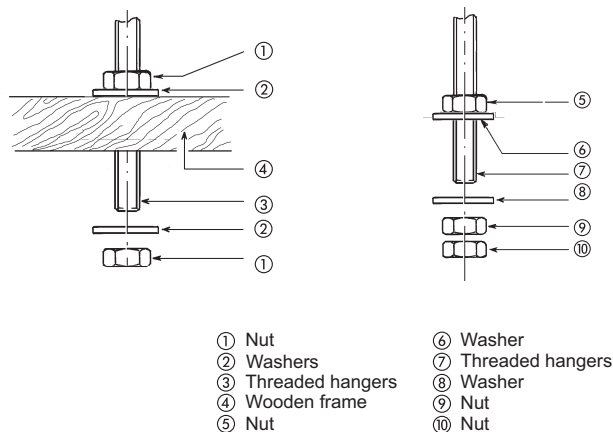
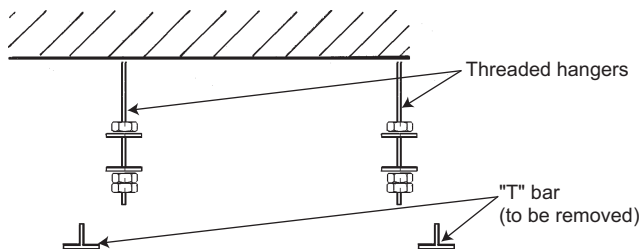
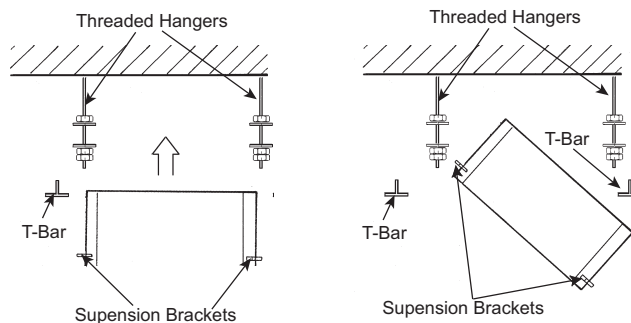

Fig. 7 - Attaching Hangers to Ceiling
Fig. 8 - Threaded Hangers and "T"Bar
Fig. 9 - Positioning Unit in Ceiling
- b. Depending on the type of ceiling, fix the threaded hangers as shown in Fig. 7 and Fig. 8.
- c. Insert the washers as shown in Fig. 7 and Fig. 8.
- d. Remove the "T"bar in ceiling to facilitate installation. See Fig. 8. If the "T" bar cannot be removed from the ceiling, the unit may have to be tilted as shown in Fig. 9.